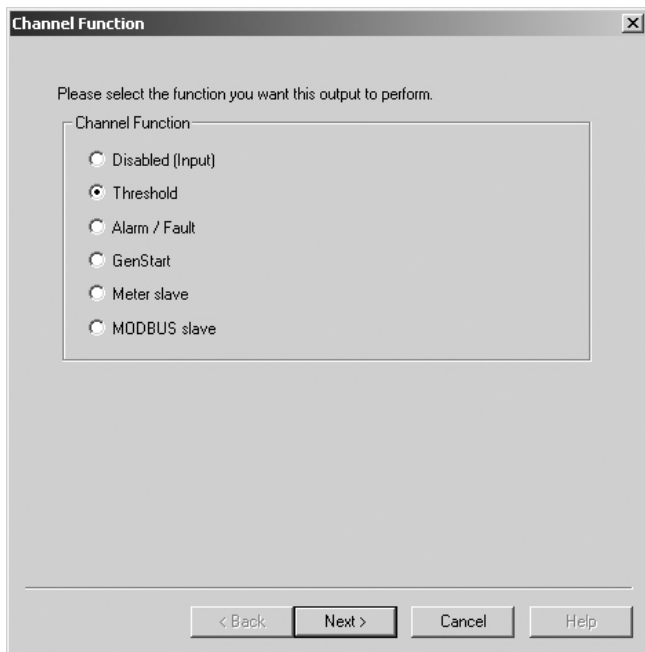

Figure 3. Select Threshold Function
The Relay Driver Setup screen, shown in Figure 3 is the starting point from which each channel is setup. The upper left area of the window displays the four channels and the corresponding configurations.
2. The Channel Function window appears as shown in Figure 3. A list of Functions from which to choose is provided. By default, the *Disabled* function is selected.